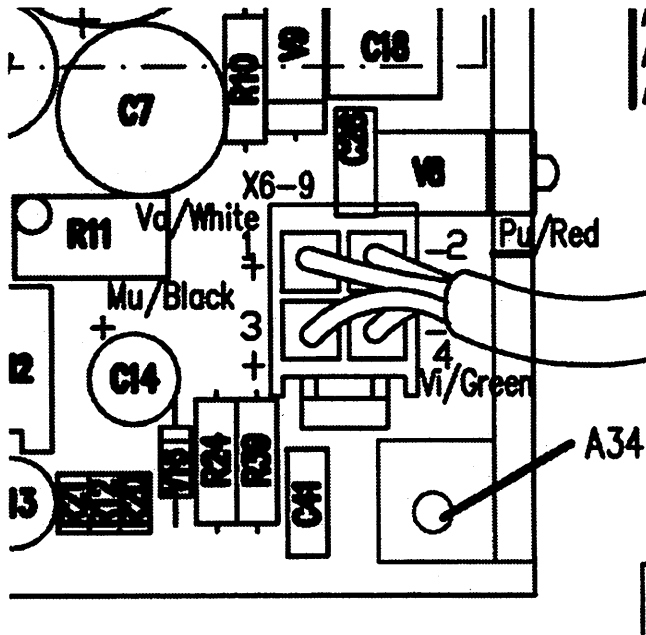

Figure 3 Output cable location
3.    Solder PCA connector which came with new cable to the PCA as shown in figure 3.
Power adapter can be positioned in any position except upside down. Attach the adapter firmly to the structure of the transport vehicle using e.g. screws (figure 3).